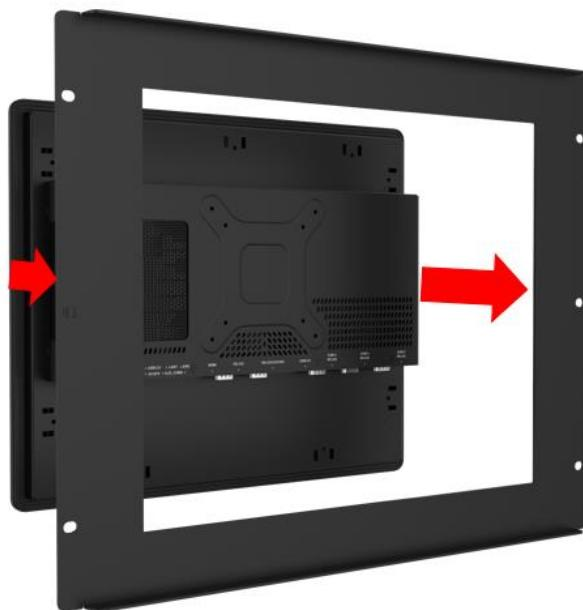

Figure 3-14: Machine mounted to panel
Step 3: Slide the PPC2-CW123/133-EHL through the hole until the aluminum frame is flush against the panel (**Figure 3-14**).